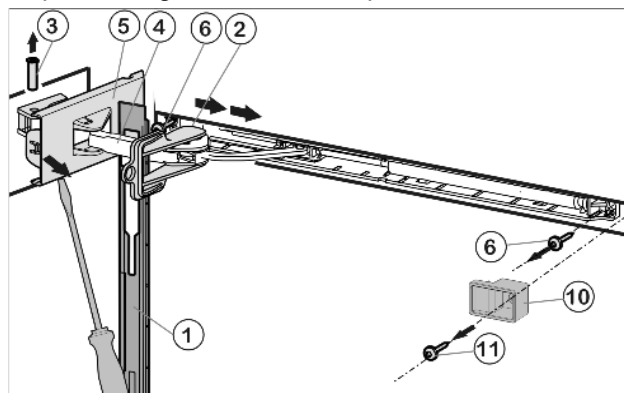

Fig. 36
- Unscrew spacer Fig. 36 (10).
- Push panel forward over the damper bracket Fig. 36 (4) in the direction of the appliance.
- Engage locking device Fig. 36 (2) into place inside oblong hole.
- Unscrew cover that is on the hinge side Fig. 36 (5) until the first notch using a screwdriver.
- Push bolt Fig. 36 (3) out from below.
- Press damper bracket Fig. 36 (4) in the direction of the door.
- Completely loosen cover that is on the hinge side Fig. 36 (5) and remove.
- Remove panel Fig. 36 (1).
- Unscrew soft stop unit (2 x Torx 15) Fig. 36 (6).
- Tighten spacer Fig. 36 (10).